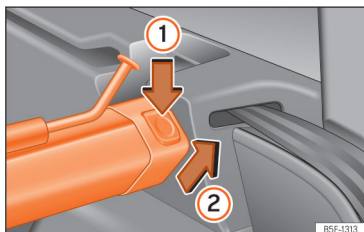

Fig. 185 In the boot: removing the partition net.
- Press the left or right release catch >>> **Fig. 185** in the direction of the arrow ①.
- Remove the casing from the support in the direction of the arrow >>> **Fig. 185** ②.
- Press the casing into the left and right supports in the opposite direction to the arrow >>> **Fig. 185** ② until it engages. The red markings on the release buttons should no longer be visible.